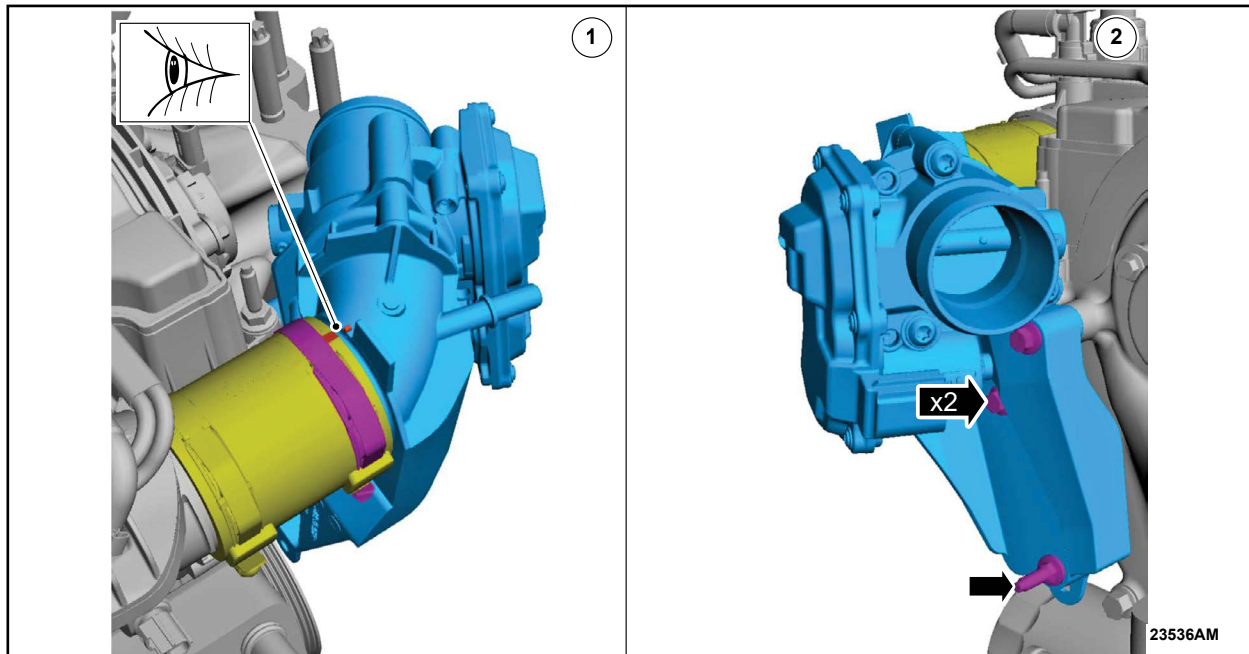

FIGURE 43
51. Install the throttle body/bracket assembly. Then, install the fasteners finger tight. See Figure 43.